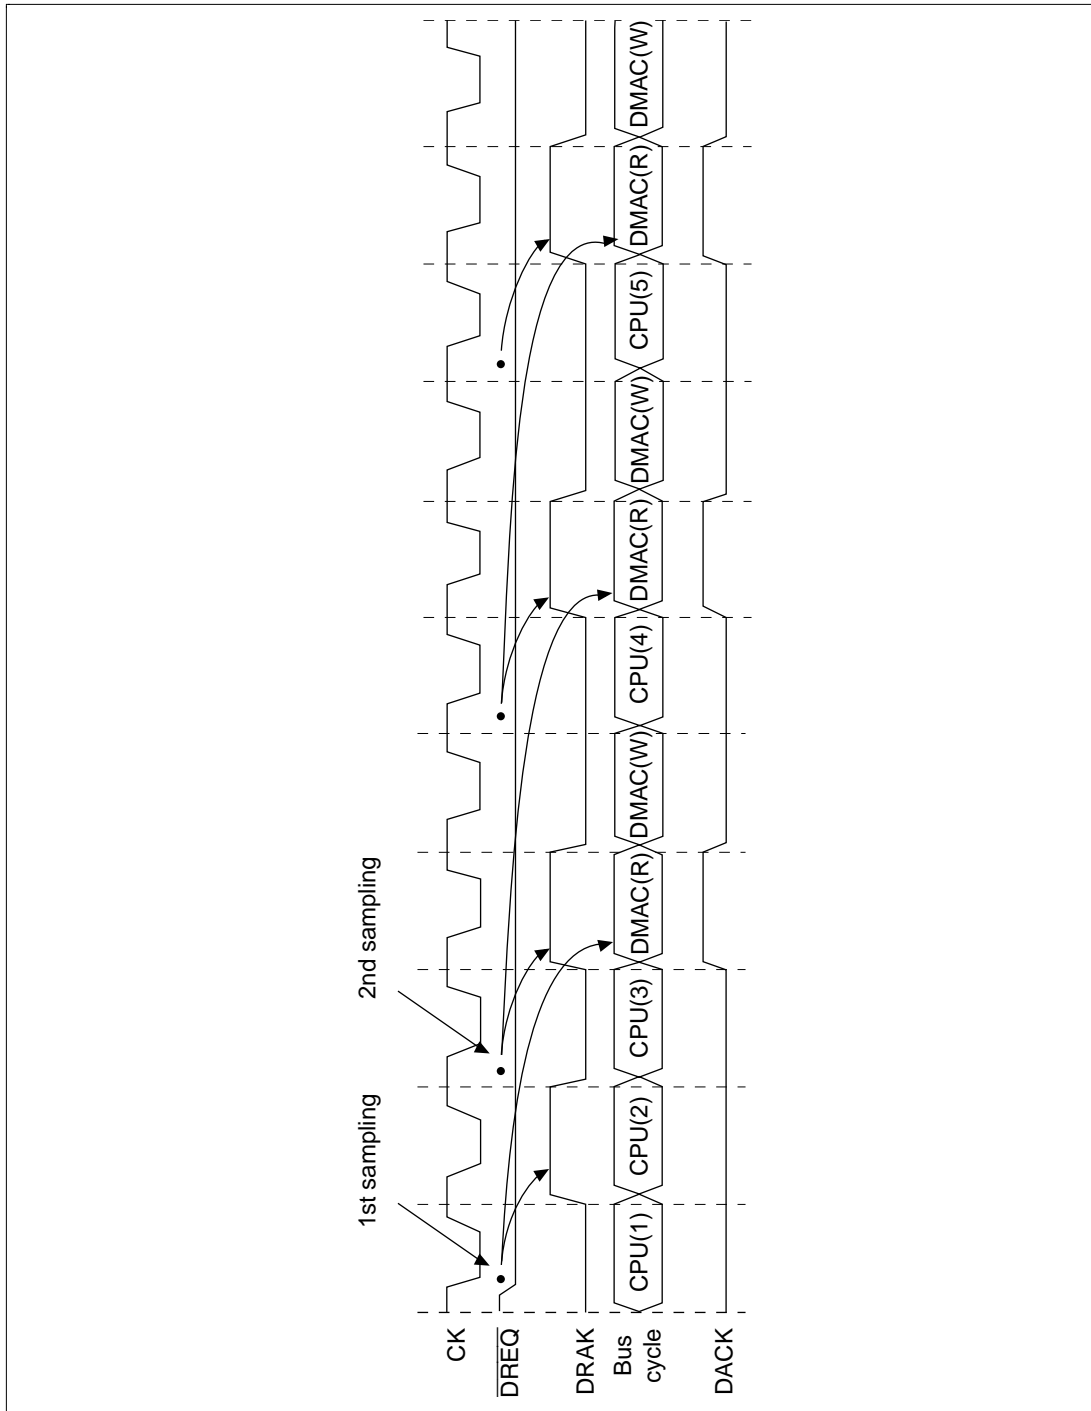
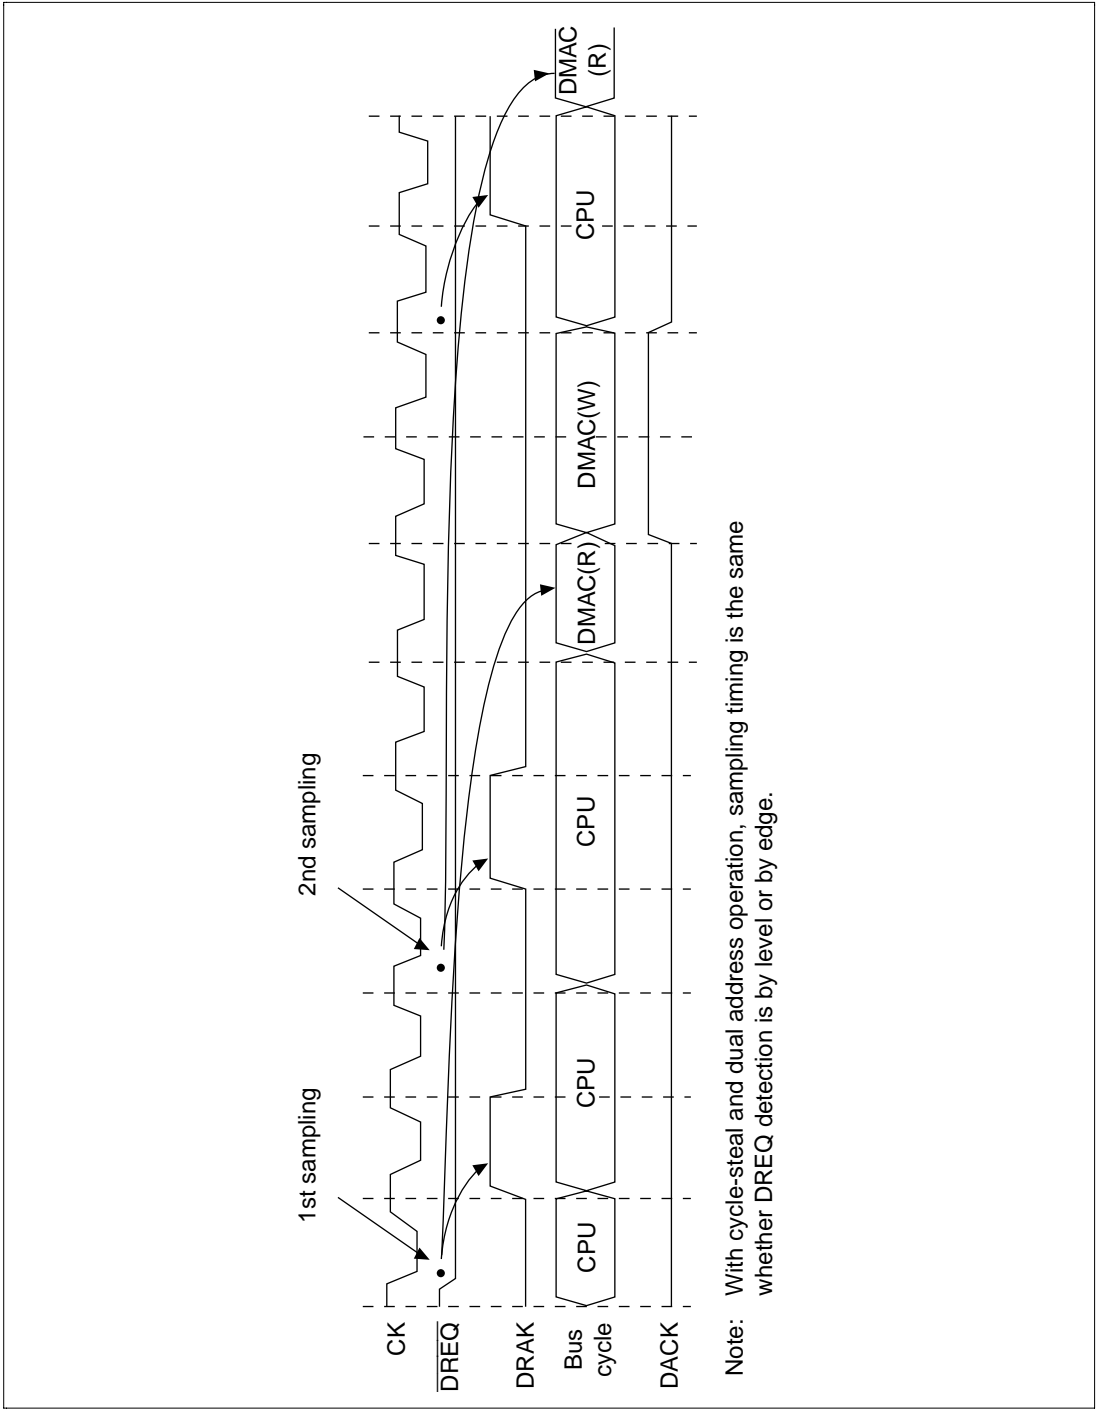

Figure 11.15 Cycle Steal, Dual Address, and Level Detection (Fastest Operation)
Figure 11.16 Cycle Steal, Dual Address, and Level Detection (Normal Operation)
For example, DMAC transfer begins (figure 11.15), at the earliest, three cycles from the first sampling timing. The second sampling begins at the start of the transfer one bus cycle prior to the start of the DMAC transfer initiated by the first sampling (i.e., from the start of the CPU(3) transfer). At this point, if DREQ detection has not occurred, sampling is executed every cycle thereafter.
As in figure 11.16, whatever cycle the CPU transfer cycle is, the next sampling begins from the start of the transfer one bus cycle before the DMAC transfer begins.
Figure 11.15 shows an example of output during DACK read and figure 11.16 an example of output during DACK write.